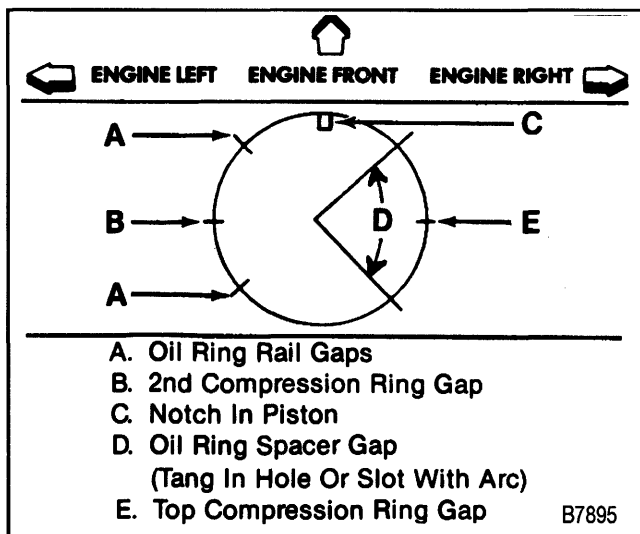

Figure 32—Piston Ring End Gap Location
- B. Locate the piston ring end gaps as shown in figure 32. Lubricate the piston and rings.
- D. The piston must be installed so that the notch in the piston faces the front of the engine (figure 32).